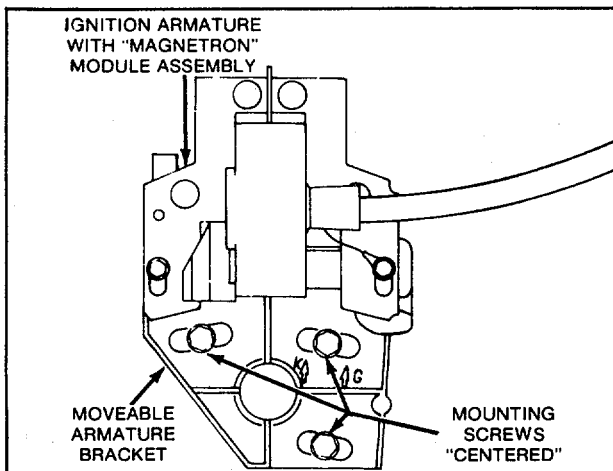

Fig. 29A- Gasoline Operation
1. Gasoline - Position armature bracket so mounting screws are centered in armature bracket and tighten screws, Fig. 29A.